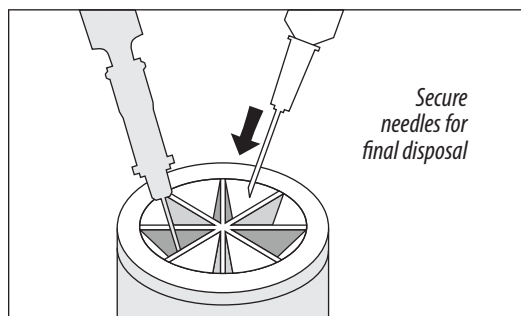

Figure 23
- Using one-handed technique, firmly push needles into disposal cup holes (refer to Figure 23).